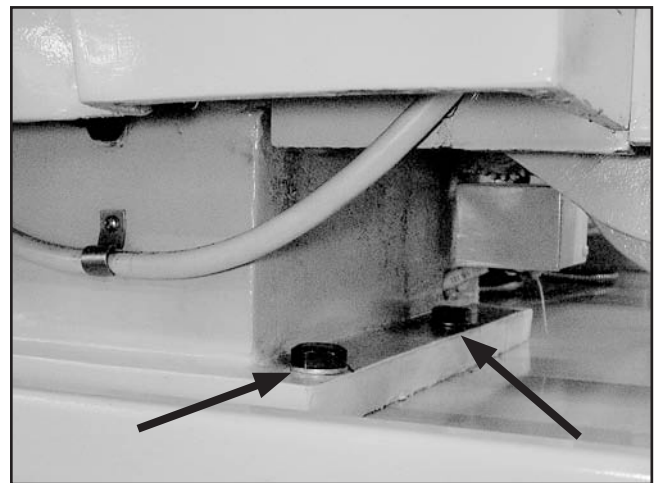

Figure 9. Lathe mounting hex bolts.
6. Position the lathe so that the six M12-1.75 x 40 hex bolts and flat washers can be inserted through the chip pan and partially threaded, but not fully tightened, into the mounting holes of the cabinets (see **Figure 9**).